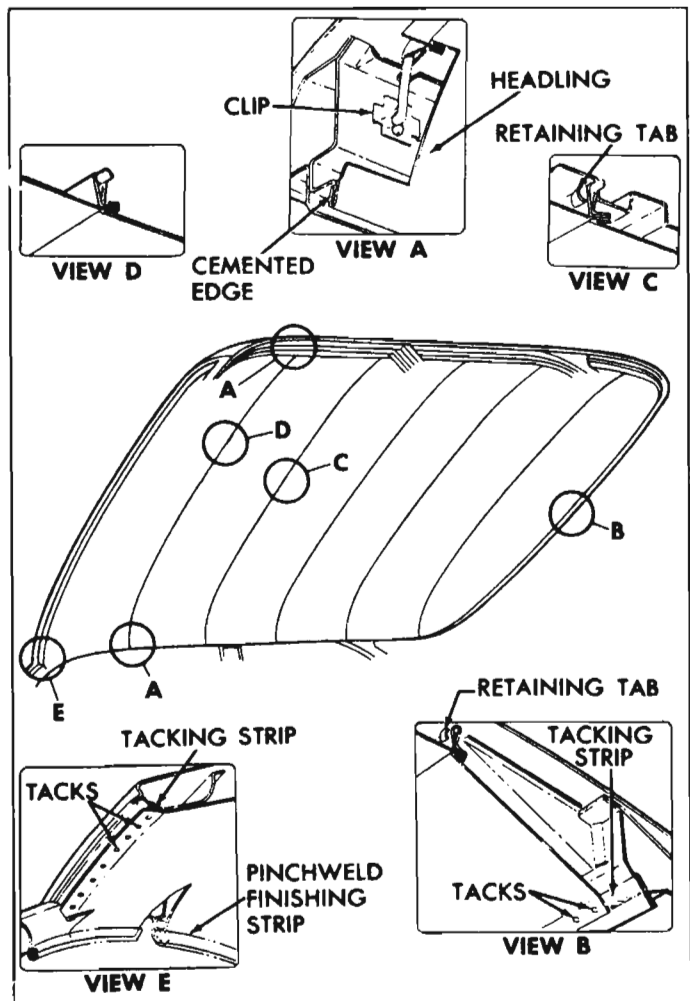

Fig. 10-70—Headlining Installation
2. Remove retainer attaching screw from lock pillar facing of door (see fig. 10-70).
3. Carefully detach cemented edge of headlining along each side roof rail. (See View "A," Figure 10-70).